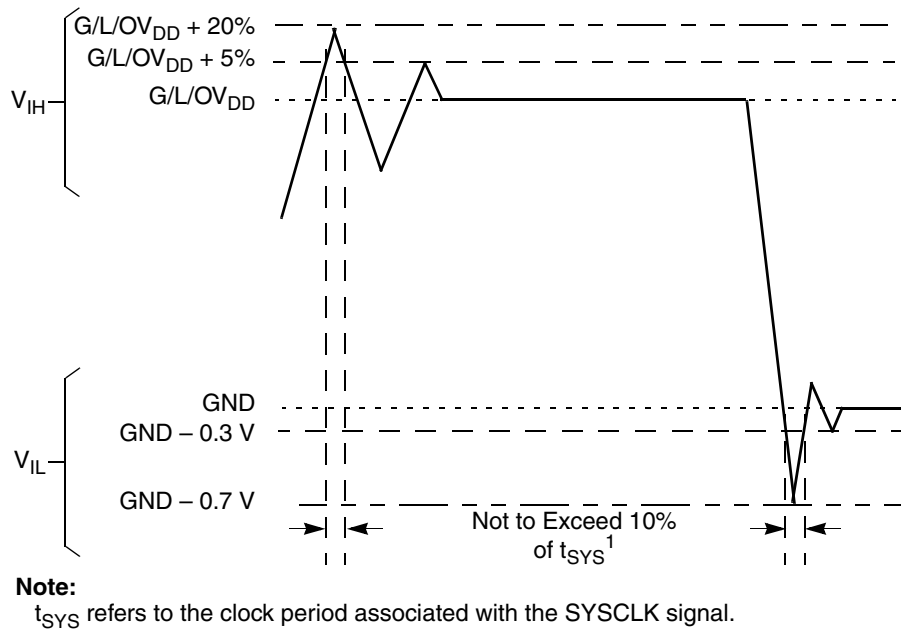

Figure 2. Overshoot/Undershoot Voltage for  $GV_{DD}/OV_{DD}/LV_{DD}$
- (M,L,O) $V_{IN}$  and  $MV_{REF}$  may overshoot/undershoot to a voltage and for a maximum duration as shown in Figure 2.
Figure 2 shows the overshoot and undershoot voltages at the interfaces of the MPC8540.